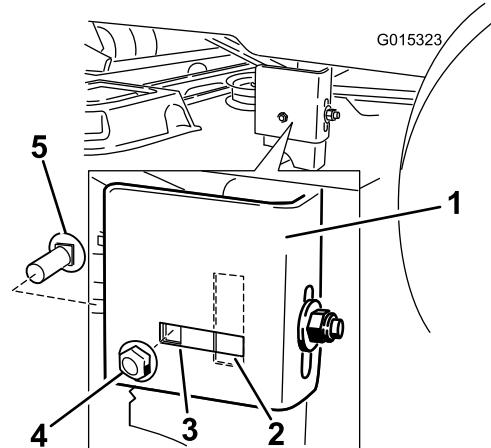

Figure 55
- 8. Check if the side carriage bolt is in the fixed or slotted position (Figure 55).
Note: If the side carriage bolt is in the fixed position, remove the side carriage bolt and the side-locking nut from the fixed position, and install it into the slotted-adjustment position (Figure 55).